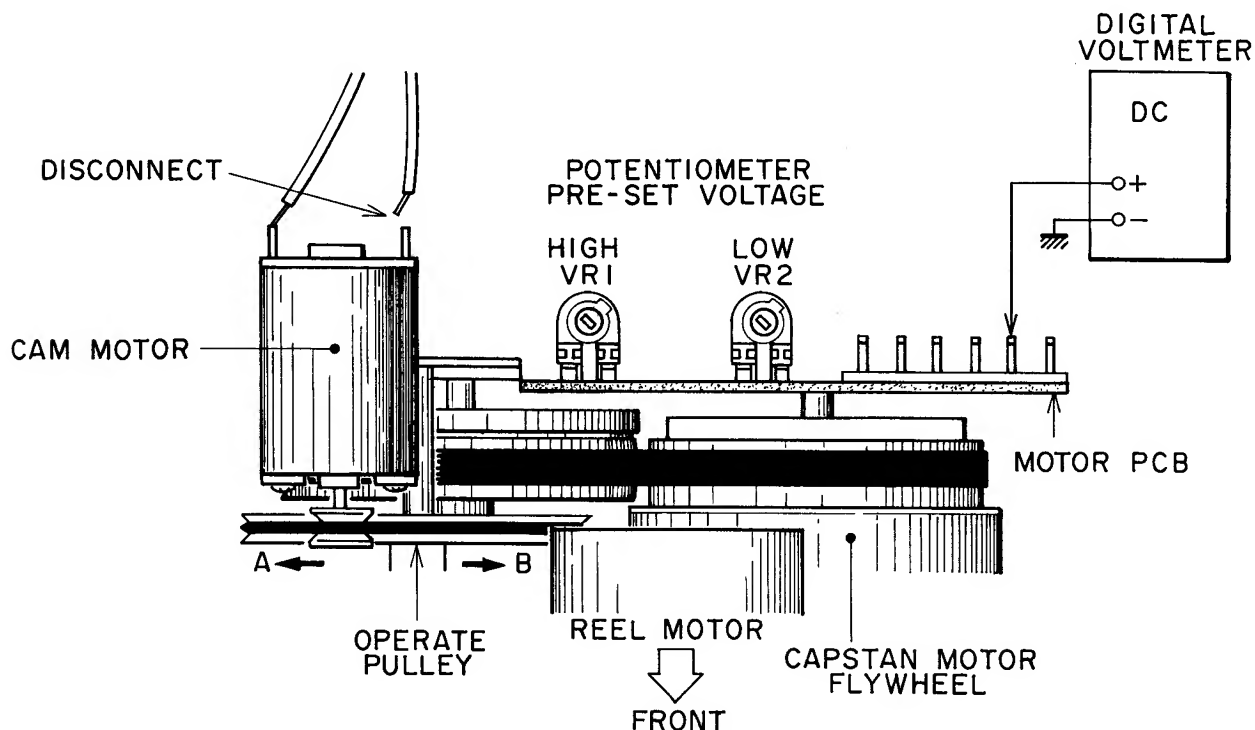

Fig. 2-11
3. POTENTIOMETER PRESET VOLTAGE ADJUSTMENT (Refer to Fig. 2-11, 12)
- Connect the digital voltmeter as shown in Fig. 2-11.
- With power ON, adjust VR2 so that the voltage reading will be 0.78V (DC).
- With power ON, adjust VR1 so that the voltage reading will be 6.73V (DC).